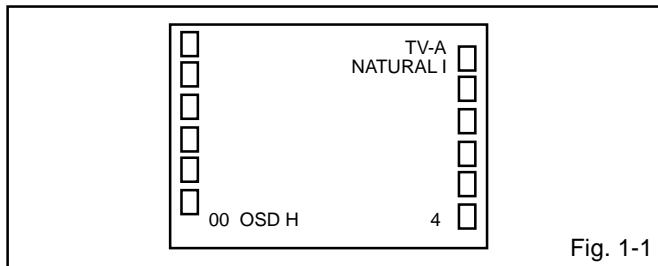

Fig. 1-1
2. Press the VOL. DOWN button on the set and the Channel button **(9)** on the remote control for more than 2 seconds to appear the adjustment mode on the screen as shown in **Fig. 1-1**.
4. Activate the adjustment mode display of **Fig. 1-1** and press the channel button **(01)** on the remote control to select "CUT OFF".
4. Activate the adjustment mode display of **Fig. 1-1** and press the channel button **(24)** on the remote control to select "R.BIAS".
6. Adjust the VOL. UP/DOWN button on the remote control to whiten the R.BIAS, G.BIAS, B.BIAS, R.DRV, B.DRV, R.BIAS(C), G.BIAS(C), B.BIAS(C), R.DRV(C), B.DRV(C), R.BIAS(W), G.BIAS(W), B.BIAS(W), R.DRV(W) and B.DRV(W)" at each step tone sections equally.
4. Activate the adjustment mode display of Fig. 1-1 and press the channel button (43) on the remote control to select "BRI CENT".
2. Activate the adjustment mode display of Fig. 1-1 and press the channel button (52) on the remote control to select "SUB CONT".
6. Activate the adjustment mode display of Fig. 1-1 and press the channel button (02) on the remote control to select "H.POSI".
9. Activate the adjustment mode display of Fig. 1-1 and press the channel button (04) on the remote control to select "H. SIZE".